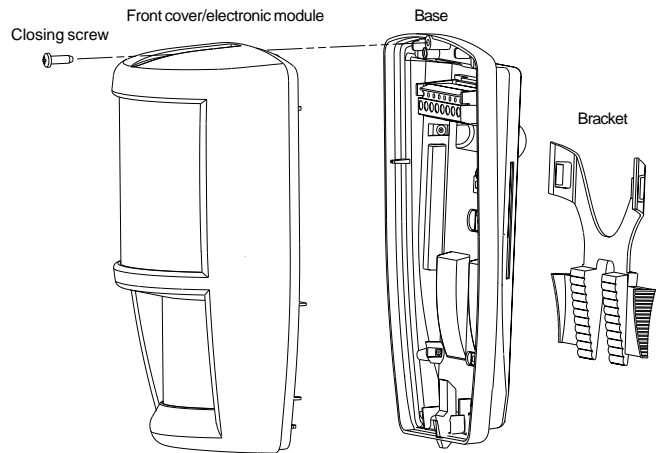

Figure 1. Detector (Exploded)
2. To remove the front cover/electronic module, remove the closing screw. See Figure 1. Then pull out on the top of the front cover and lift off.
9. Tighten the closing screw. See Figure 1.